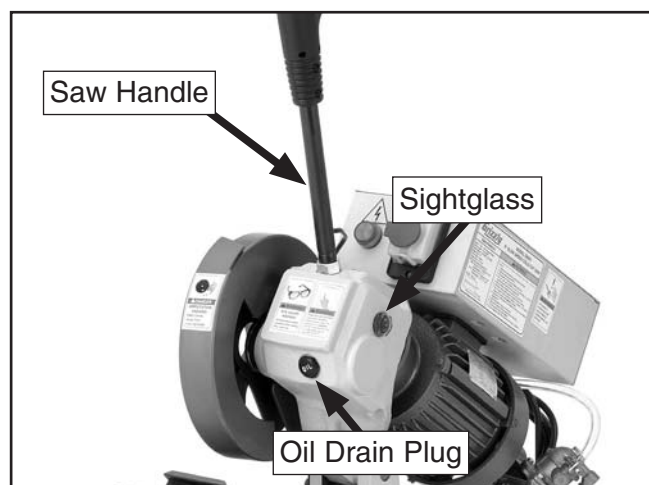

Figure 35. Oil plug locations.
3. Hold the drain pan under the oil fill/drain plug, then remove the oil drain plug (**Figure 35**).